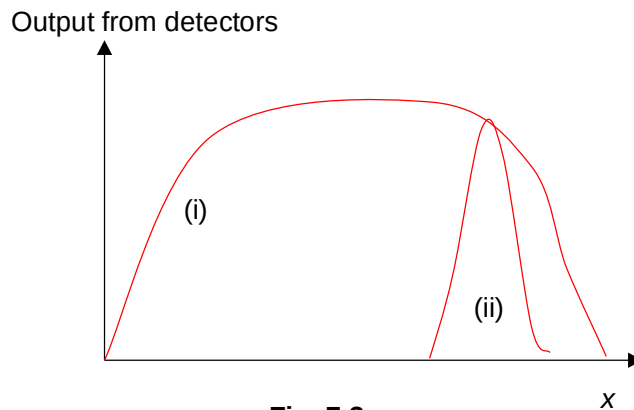

Fig. 7.3
- (g) Sketch on the axes in Fig. 7.3 curves to show the general shape of graphs that would be obtained if